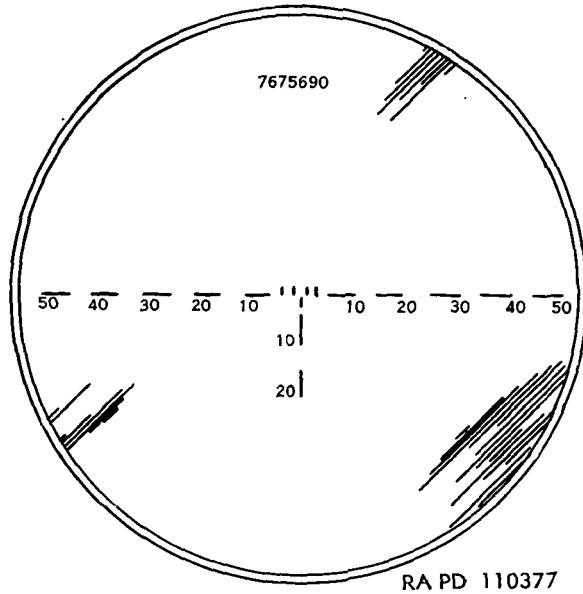

Figure 203. Reticle pattern as seen through the left eyepiece, periscope M15A1.
- (1) Install the periscope M15A1 (or M13 or M6, whichever is furnished) in its holder by rotating the two levers on the periscope holder to retract the trunnions and insert the periscope in the opening of the holder. Push the periscope straight upward until the trunnions engage the circular depression in each side of the periscope body as the levers are released, thereby securing the periscope in position. To remove the periscope from the holder, reverse the operation, pulling the periscope straight downward until free of the holder.
- (2) Loosen the appropriate clamping screws and shift the head rest of the periscope M15A1 inward or outward to suit the observer's head; tighten the screws.
- (3) Turn the interpupillary knob until the eyepieces are spaced to suit the observer's eyes.
- (4) Look through the left eyepiece and turn the focusing adapter until the reticle pattern (fig. 203) and target image are in sharp focus. Turn the focusing adapter on the right eyepiece until the target image is in sharp focus.
- (5) Slide the lamp bracket of the instrument light M33 into the dovetail slot under the left-hand eyepiece for night operation and turn the rheostat knob until the reticle pattern (fig. 203) is seen clearly.
(6) Boresight as described in paragraph 234f(4).
b. **OBSERVING.** Push the elevation clamp lever on the periscope M15A1 (fig. 198) forward to release the elevation clamp. Look through the eyepieces and, with the hands, traverse and elevate or depress the periscope until the target appears at the center of the reticle pattern. Pull the elevation clamp lever backwards to clamp the periscope in the desired position. The position of the shell burst in relation to the target is noted on the reticle. Each horizontal line or space of the reticle pattern (fig. 203) represents a 5-mil deflection. The two short vertical lines either side of center are 1 mil high and spaced 1 mil and 3 mils either side of center. The broken vertical line is graduated in $2\frac{1}{2}$ -mil and 5-mil intervals.